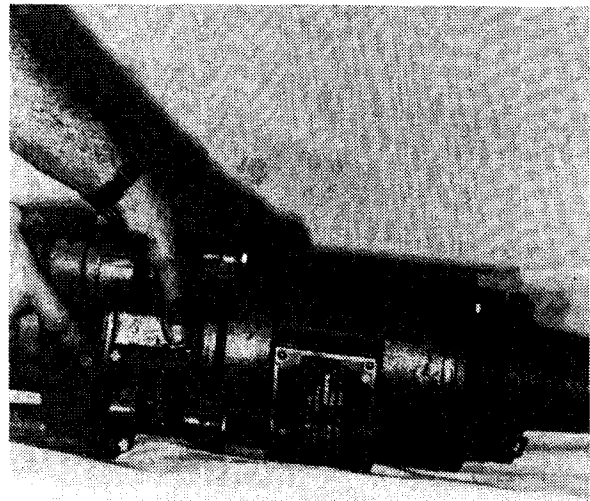

FIG. 13
3. Remove oil fill plug slowly from seal chamber as pressure may have built up in this cavity, and pour out oil. See Figures 13 & 14.